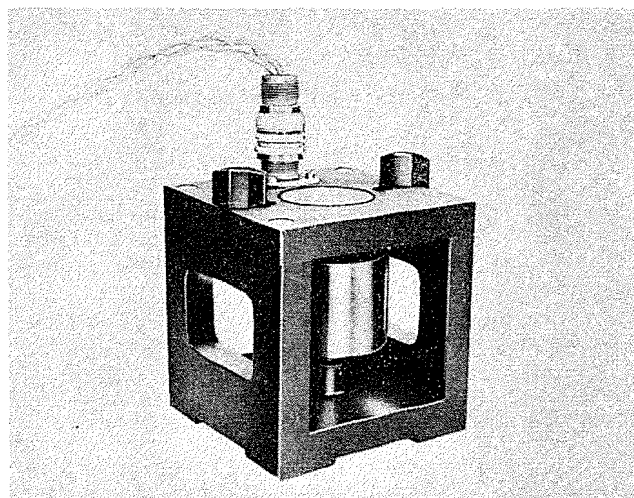

Figure 46
a. Set the rotor in run-in fixture T100663 (figure 46) and plug in test fixture T100667. Apply 115-volt, 400-cycle, 3-phase a-c power, and run the rotor for approximately 5 minutes.